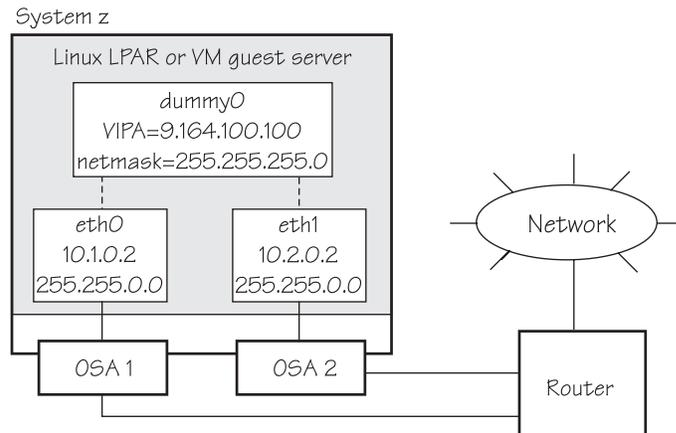

Figure 25. Example of using Virtual IP Address (VIPA)
- Static routing (shown in the example of Figure 25 on page 160).
Figure 25 shows the network adapter configuration used in the example.